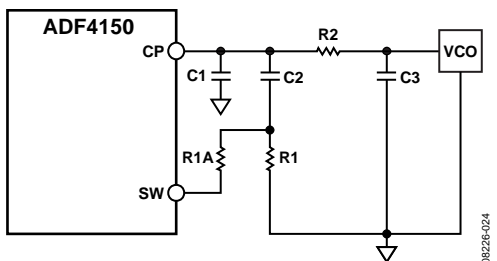

Figure 28. Fast Lock Loop Filter Topology—Topology 2
- An extra resistor (R1A) is connected directly from SW, as shown in Figure 28. The extra resistor is calculated such that the parallel combination of an extra resistor and the damping resistor (R1) is reduced to 1/4 of the original value of R1 (see Figure 28).